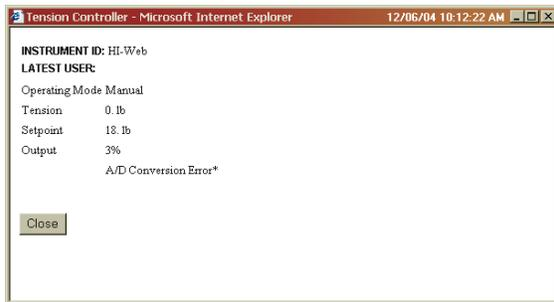

FIG. 3-24 MONITORING THE HI 3300
Step 5. Click on Monitor. The Monitor Dialog Box appears, displaying the same information that is displayed on the front panel. (See Fig. 3-24)